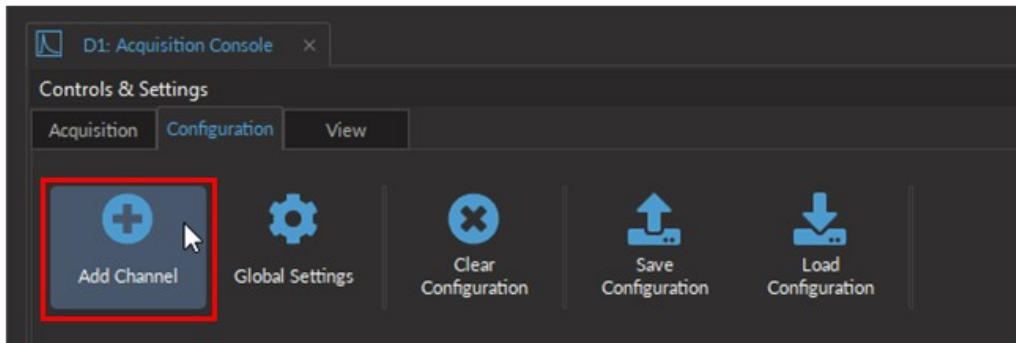
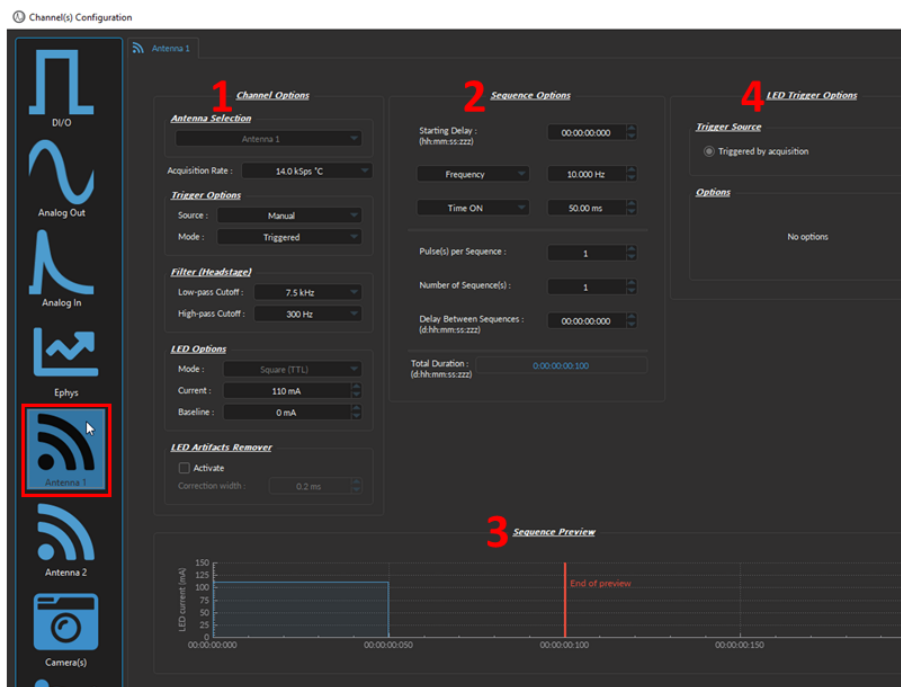

Figure 3.11: Add Channel button opens the Channel Configuration window
Figure 3.13: Electrophysiology channel configuration window
To create a new channel, regardless of the input and/or output type, select the **Add Channel** button, which can be found under the **Configuration** tab (Fig. 3.11). This will open the **Channel(s) Configuration** window (Fig. 3.13).
Different types of input and output can be configured for the particular of the experiment by creating a new Channel in the Configuration tab or editing an existing one (Fig 3.11). Table 3.1 details the types of inputs and output the console and the software can handle and gives a quick access to their sections.
The *Channel(s) Configuration* window for the Antenna Channel is divided into four sections (Fig. 3.13): (1) the **Channel Options** (Section 3.4.3.1), (2) the **Sequence Options** & (3) **Preview** (both treated in Section 3.4.3.3), and (4) the **LED Trigger Options** (Section 3.4.3.2).
The *Channel(s) Configuration* window for the **Digital I/O** Channel is divided into three sections (Fig. 3.13): (1) the **Channel Options** (Section 3.4.4.1), (2) the **Sequence Options** & (3) **Preview** (both treated in Section 3.4.4.2).